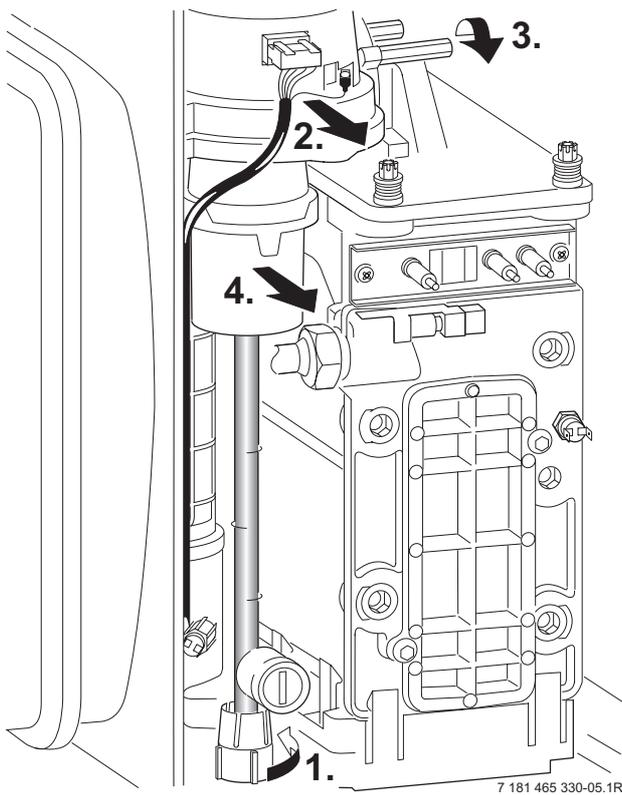

Fig. 54
- ▶ Undo lower pipe union on gas pipe (1.). Refer to fig. 54.
- ▶ Undo the union, within the inner casing, securing the valve to the gas/air tube. Refer to fig. 54.